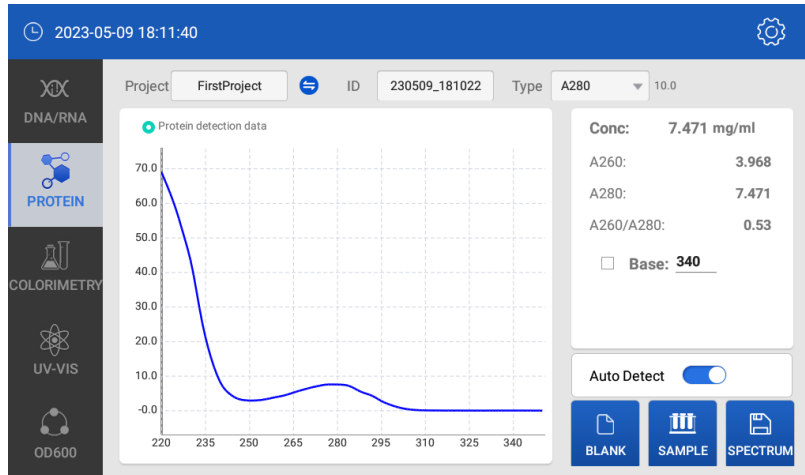
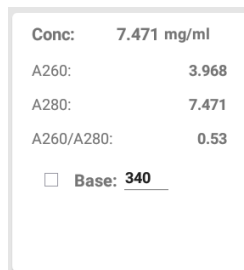

Fig 4.9 Protein detection result
Fig 4.10 Protein result
Will reminder user to shift to a shorter wave length to ensure the accuracy. It will show as below Fig 4.9
(1) As showed Fig 4.9, blue-ground-colored buttons are active, white-ground-colored buttons are inactive.
①  : Project name, make a proper name according to users’ need.
②  : ID No. , default name is the current time, users also can make a new ID name according to need. Each ID can save 1000 data.
③  : Click to choose protein type, when users choose “other”, users can input the value according to need. Instrument will calculate the result.
④  : Blank before detection by TE buffer, the buffer Abs should be -0.02~0.02 Abs. In case that the user does not detect more than 30 min after blank, instrument requires another blank.
⑤  : users can choose or cancel baseline calibration. Protein detection Baseline default is 340nm, users can input a wavelength according to experiment with different wave length. Commonly, users can input other wave length for baseline. Usually the baseline wavelength is not sensitive to the target sample. All the wavelength Abs should minus the baseline wavelength Abs.
⑥  : Under condition of this function on, instrument can detect automatically once upper pedestal put down.
(2) Operation steps:
① Set the project name and sample No.:
② Blank with TE buffer: add 2ul TE buffer on the lower pedestal, lay down the upper pedestal and start to “Blank”.
③ Clean the pedestals by a dust free cloth after blank.
④ Add 2ul sample onto the lower pedestal, lay down the upper pedestal, and press the “sample” button to measure. See Fig 4.10
(3) As Fig 4.10 (From Fig 4.9), the data result as below
① Set the project name and sample No., colorimetry type, and curve,
- ① Set the project name and sample No.:
- ② Blank with TE buffer: add 2ul TE buffer on the lower pedestal, lay down the upper pedestal and start to “Blank”.
- ③ Clean the pedestals by a dust free cloth after blank.
- ④ Add 2ul sample onto the lower pedestal, lay down the upper pedestal, and press the “sample” button to measure. See Fig 4.10